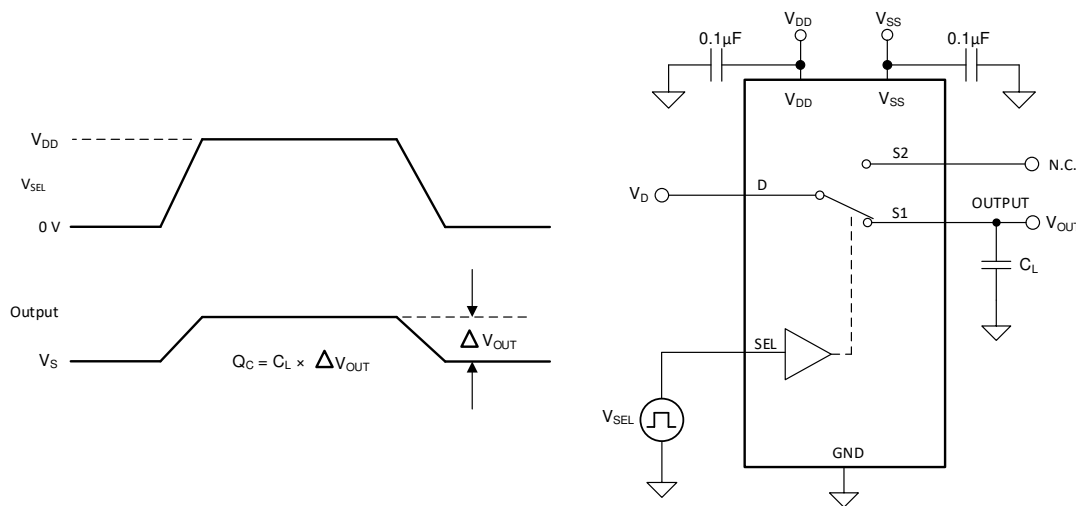

Figure 12. Charge-Injection Measurement Setup
The TMUX1219 has a transmission-gate topology. Any mismatch in capacitance between the NMOS and PMOS transistors results in a charge injected into the drain or source during the falling or rising edge of the gate signal. The amount of charge injected into the source or drain of the device is known as charge injection, and is denoted by the symbol  $Q_C$ . Figure 12 shows the setup used to measure charge injection from Drain (D) to Source (Sx).